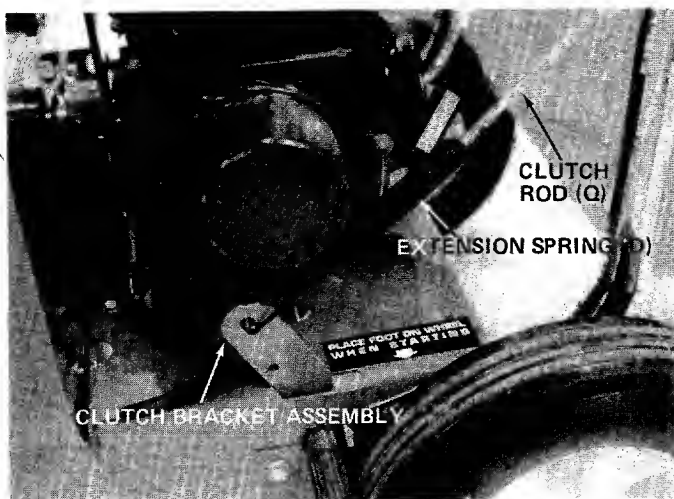

FIGURE 10.
8. Hook top (hooked end) of clutch rod into clutch grip. Hook spring into clutch bracket assembly. See figure 10. Spring should not have any slack. Adjust nut so that when the clutch grip is all the way up, there is no slack in the spring.